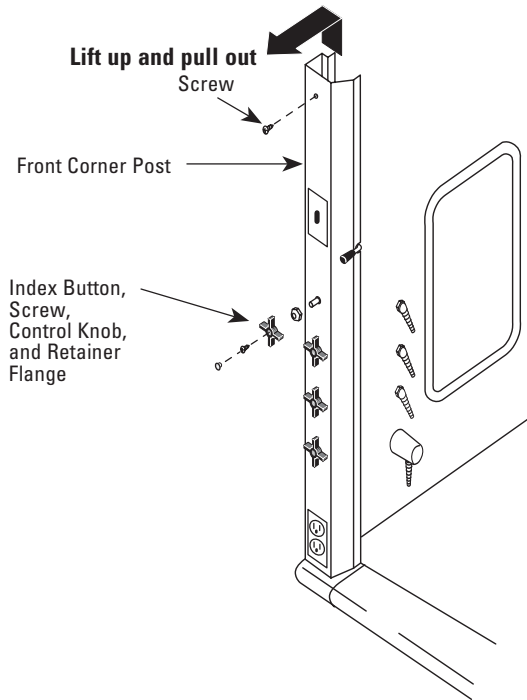

Figure 20
3. Remove both front corner posts (See Figure 20).